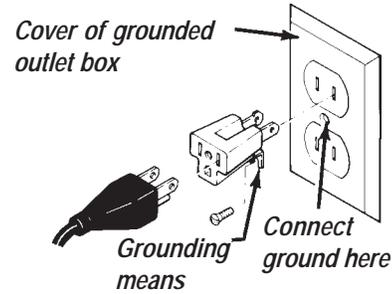

Figure A-2
- If you have a two-hole receptacle, use a **temporary** adapter to plug in the Mark 7, as illustrated in Figure A-2. The grounding lug or wire on the adaptor **MUST** be connected to a permanent ground such as a grounded outlet box. The temporary adapter should be used only **until** a properly grounded outlet can be installed. **(Adapters are not allowed in Canada.)**